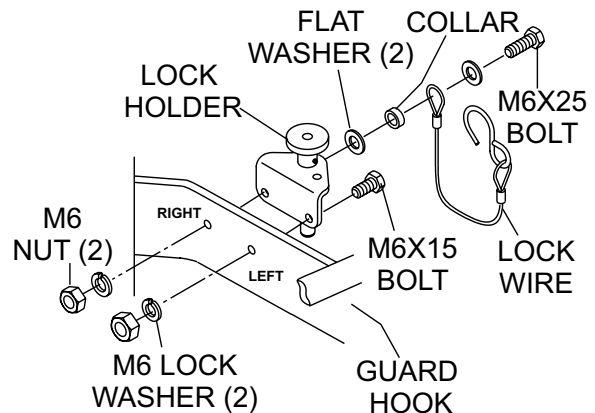

Figure 4. Lock Holder Installation
1. Using a 10 mm socket, secure the lock holder, item 8 (Figure 4) to the guard hook by inserting a M6X15 bolt, (item 7) through the left-side bolt hole opening.